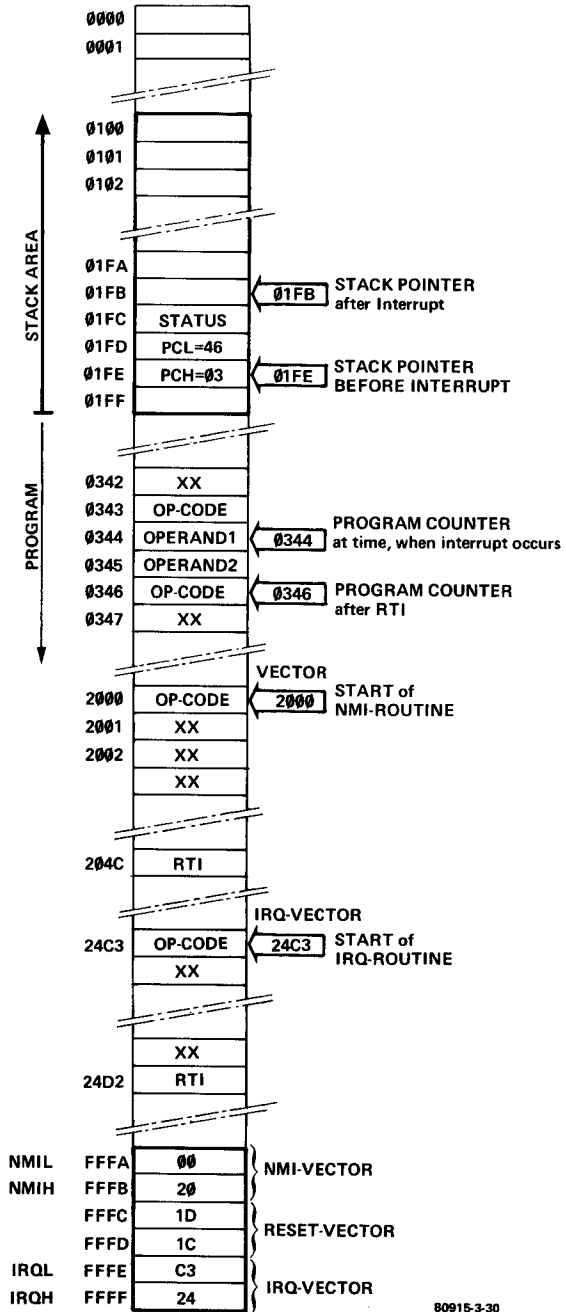

**Figure 29.** Illustration of the operation when an interrupt signal is received by the microprocessor.
When the NMI input is taken low the processor investigates the contents of locations FFFA and FFFB. These locations contain the start address of the interrupt routine. In the example shown in figure 29 this start address is 0200. The low order byte is contained in FFFA and the high order byte in FFFB. The *NMI-vector* is very similar to the address pointers mentioned earlier. The NMI-vector simply 'points' to the start address of the interrupt routine.
Following an Interrupt ReQuest the processor will examine the state of the interrupt flag (I) in the status register. If this flag is set (= 1) the request will be ignored and the computer will carry on with the main program. If, on the other hand, the interrupt flag is reset (= 0), the processor examines the contents of locations FFFE and FFFF. These are the bytes reserved for the *IRQ-vector* and which contain the start address of the IRQ interrupt routine. In the example of figure 29 this start address is shown as 24C3. The high order byte is contained in location FFFF and the low order byte in FFFE. Again, nesting of (sub)routines is possible and the interrupt routine ends with the RTI instruction.